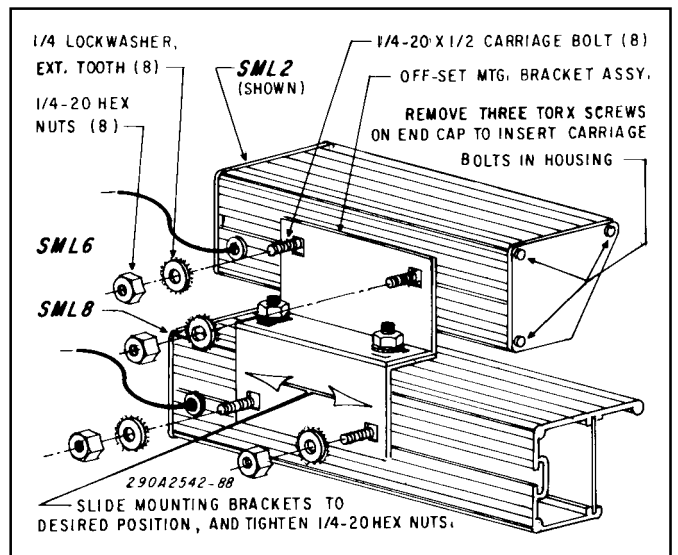

Figure 3.
- d. See figure 3. Place an SML1/SML2 in the desired position. Secure a bracket assembly to the light assemblies using lockwashers and nuts. Repeat on the other end.